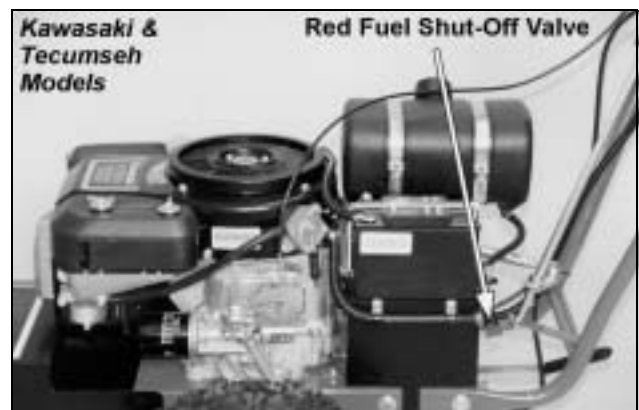

Figure 2
- On Tecumseh and Kawasaki models, the red fuel shut-off valve is on the fuel line near the corner of the black chain drive box (*Figure 2*). Turn the valve 90 degrees to open.